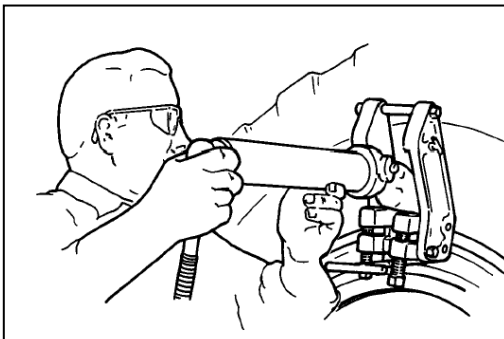

Figure 6
6. Release pump pressure. Remove spade and cylinder assembly from frame. Loosen clamping jaw bolts and remove from flange. Move to spot approximately 90° from first application (either direction) and repeat entire procedure. Repeat procedure until tire bead is free. Four or five applications usually accomplishes this. See Figure 6.